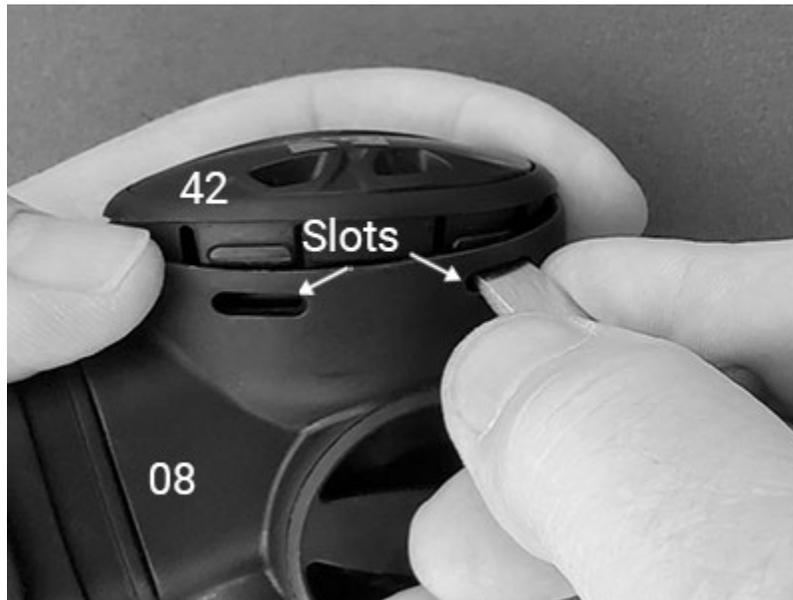

Fig. 5
2. Using side-cutting snips, remove the tie wrap(s) securing the corrugated hose to the Hose Connector Assembly. Using a brass spade, loosen the seal of the hose and work it off. If a pull dump cable is used, use a 1/16" hex key to push out the Retainer Pin (05).
3. Using side-cutting snips, cut the Tie Wrap (44) holding the Mouthpiece (25). Peel off the mouthpiece, inspecting it for cuts or tears.
4. Unlock the Retainer Ring (42) by depressing all four tabs in the slots in the Main Body with a stubby slotted screwdriver - Fig. 5. Remove the purge cover assembly consisting of the Retaining Ring (42), the Purge Cover (41) and the Diaphragm Washer (40). Run a blunt brass spade around the rim to break any seal between the Diaphragm (39) and the Main Body. Remove the Diaphragm.